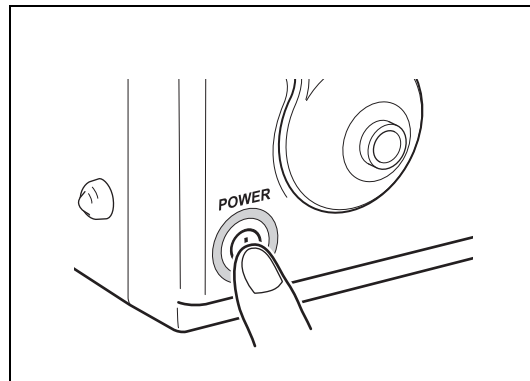

Figure 4.1
- 1 Press  on the front of the processor. (Refer to Figure 4.1.)